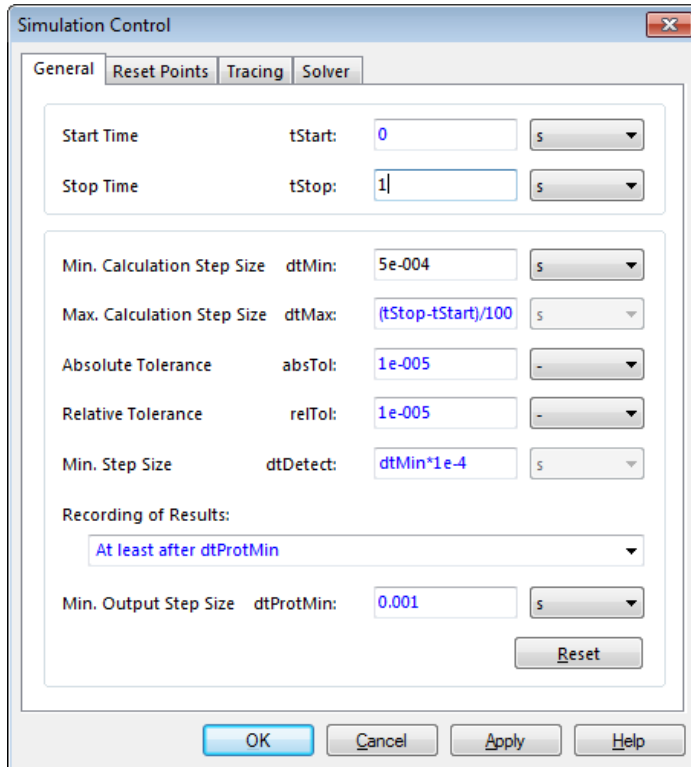

Figure 4: Simulation Control - General
- Select also for that model a minimum step size **dtMin** of $5 \cdot 10^{-4}$ and a stop time **tStop** of one 1 second (see Figure 4)
Make sure that the **Target Rate** (under **Timing Source Settings**) is equivalent to the solver setting parameter **dtProtMin** of the exported SimulationX model. You can find this parameter in SimulationX in the Simulation Control ("**Simulation – Transient Settings**" on the tab **General**; see Figure 4). The minimum output step size dtProtMin is 0.001 s so enter **1000 Hz** for the **Target Rate**.